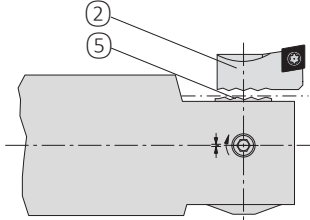

Fig. 3
The slider (5) is especially profiled to fixed quick and easy different insert holders (2) (Fig. 3).